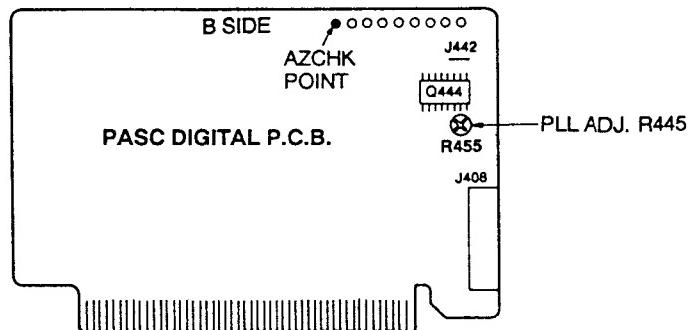

Fig. 11
- ① Stop the right side Azimuth screw at the point where only the CH2 waveform starts to move **A**.
- ② Turn the Azimuth screw to the left until the point where the waveform starts to move in the opposite direction **B**.
- ③ Turn the Azimuth screw to halfway between **A** and **B**.
1. Connect the oscilloscope to the AZCHK terminal of the PASC DIGITAL P.C.B. (Fig. 11).